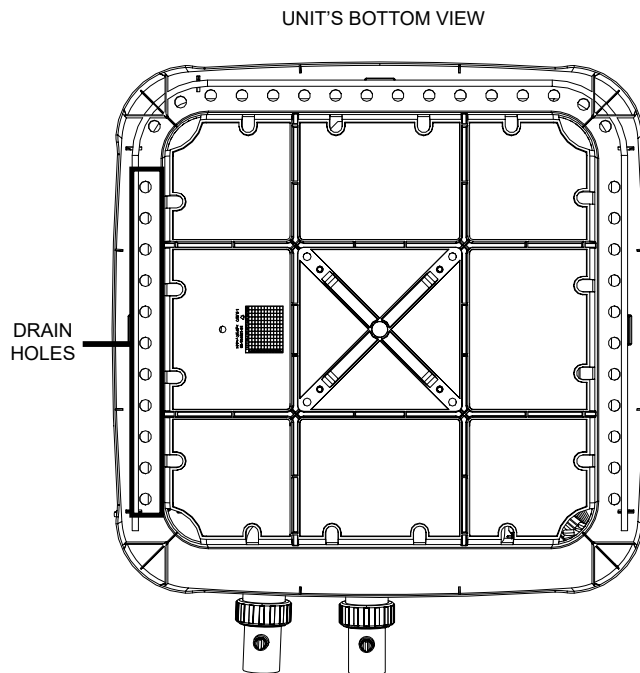

Figure 38. Condensate Drain Hole Locations
1. Routinely check to be sure the condensation drain holes in the base of the unit are not plugged with dirt or debris. See Figure 38 for condensate drain hole locations.